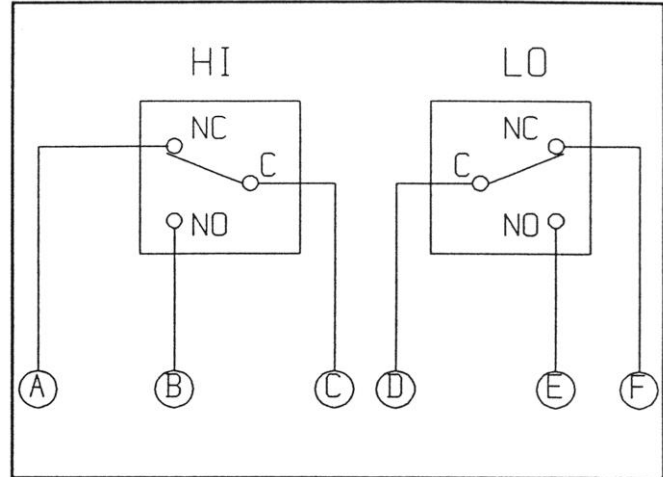

Figure 31– Wiring For Nitrogen Pressure Switch
1. **Wiring for Abnormal** – Wires “C” and “D” are wired together. Wire “A” is wired to the Alarms’ 10-switch signal PCB, labeled “SI” (signal input). Wire “F” is wired to the Alarms’ 10-switch signal PCB labeled “GO” (ground out). (See Figure 31).
2. **Wiring For A Hi-Lo Input** – Wire “A” is wired to Alarms’ 10-switch signal PCB labeled “SI” and wire “C” is wired to “GO”, for one input. Wire “F” is wired to Alarms’ 10-switch signal PCB labeled “SI” and “D” is wired to “GO” for other input. (See Figure 31.)